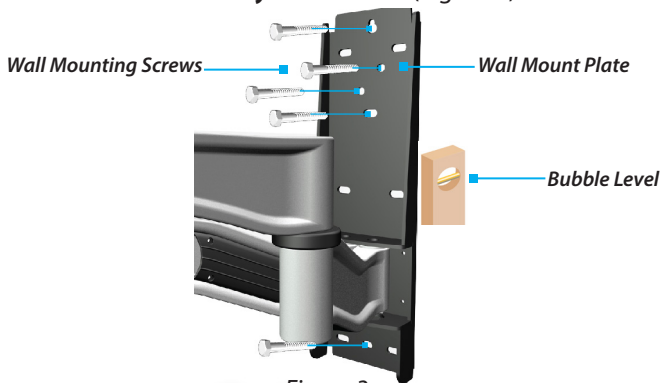

Figure 3
8. Insert the rest of the **Wall Mounting Screws** (x 4) through the **Wall Mount Plate**. Tighten all the **Wall Mounting Screws** (x 5) with the **1/2 in (13 mm) Wrench** to fasten the **Wall Mount Assembly** to the **Stud**. (Figure 3)